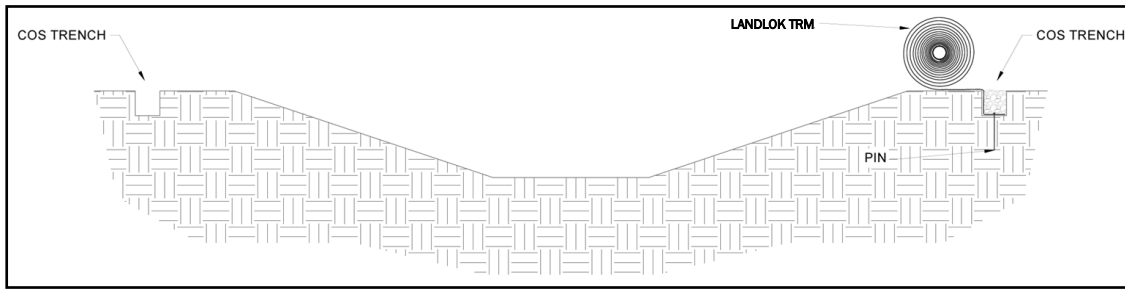

Figure 10: Crest of Slope (COS) Trench Placement
4. Secure LANDLOK with pins in the COS trench (Figure 10). Suggested placement of pins for the COS trench is along the bottom of the trench on 12 in (300 mm) centers. Pins should also be installed on panel edge overlaps in the COS trench.
5. Backfill and compact the COS trench in the location of the first LANDLOK panel only (Figure 10).